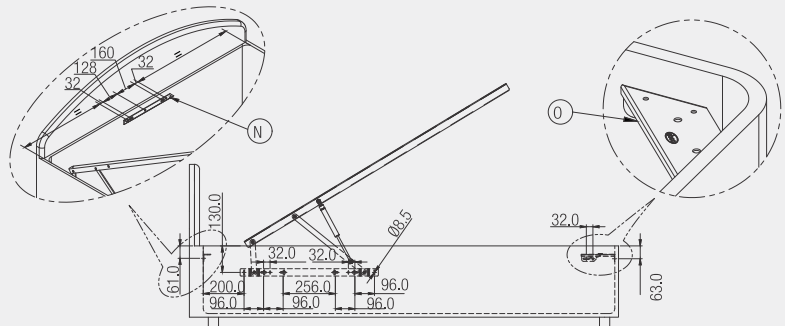

Fig.3
3. Lastly fit the gas pump as shown in diagram (Ref. Fig.3).
4. Fit the Fix Bracket on bed frame as per dimensions. (Ref. Fig.3) without the gas spring fitted.